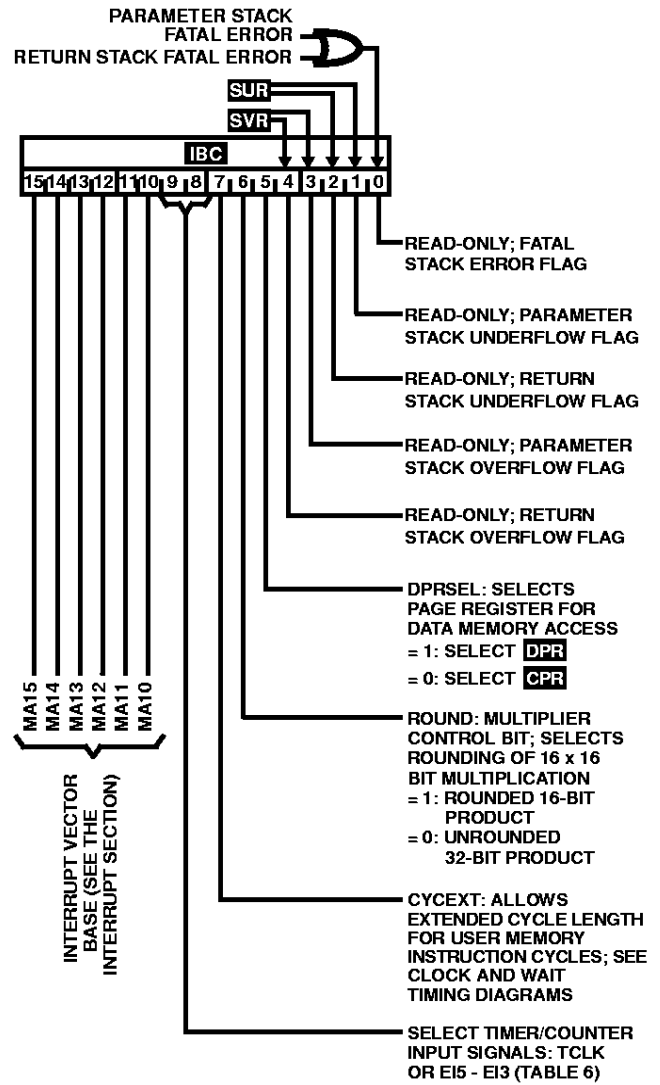

FIGURE 5. **IBC** BIT ASSIGNMENTS
**IBC**: The Interrupt Base/Control Register is used to store the Interrupt Vector base address and to specify configuration information for the processor, as indicated by the bit assignments in Figure 5.